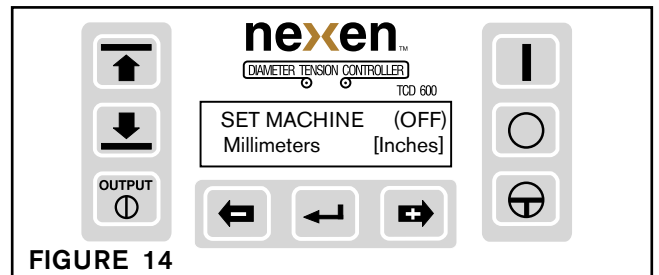

FIGURE 14
3. The lower display line will advance, prompting you to select millimeters or inches (See Fig. 14). Press the plus or minus button to select the desired measurement; then press Enter.